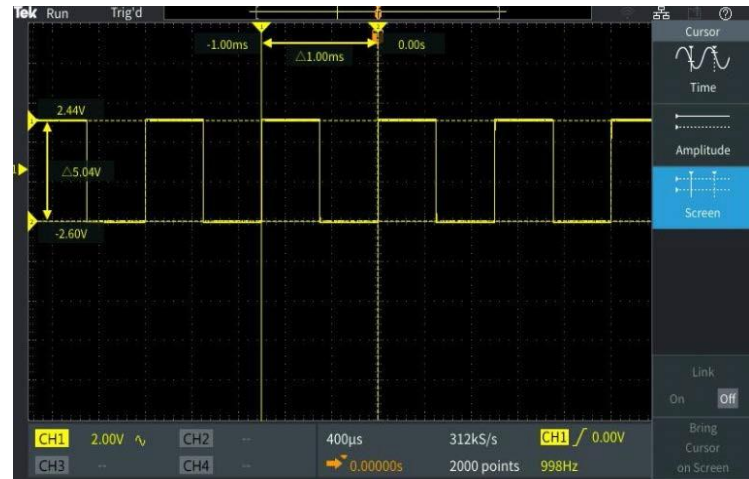

Figure 11. Using the cursors to measure period and amplitude of the Probe Comp signal
8. Press **MPK** again to change control to the upper cursor for amplitude measurements. Move the cursor to the top of the signal and note the delta readout (Figure 11).